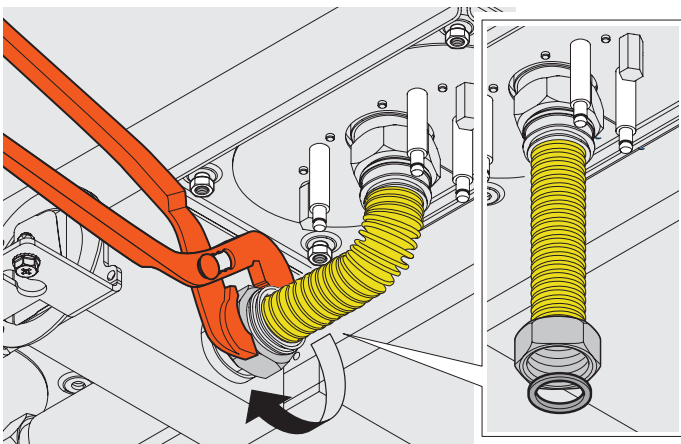

Figure 6
- b) Disconnect the feeding air/gas pipe from the blower pad as shown in **Figure 6** by using parrot nose pliers.